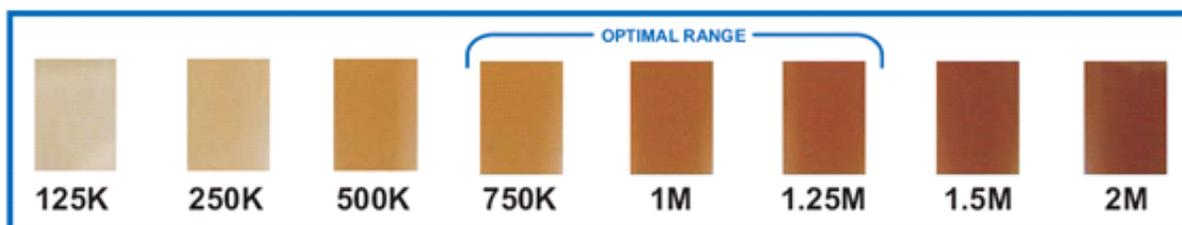
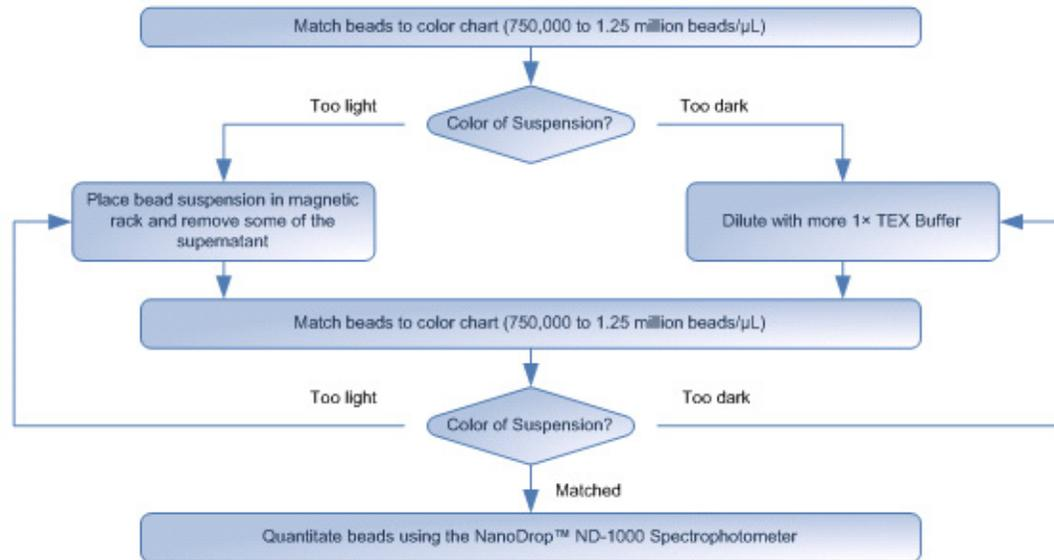

Figure 19 The SOLiD™ Bead Concentration Chart. For best results, use the SOLiD™ Bead Concentration Chart (PN 4415131), supplied separately.
Figure 20 The SOLiD™ Bead Concentration Chart workflow.
3. Adjust the volume of beads so that the color of the bead solution matches a color in the optimal range (750,000 beads/ μL to 1.25 million beads/ μL ; see Figure 19 and Figure 20 on page 32).